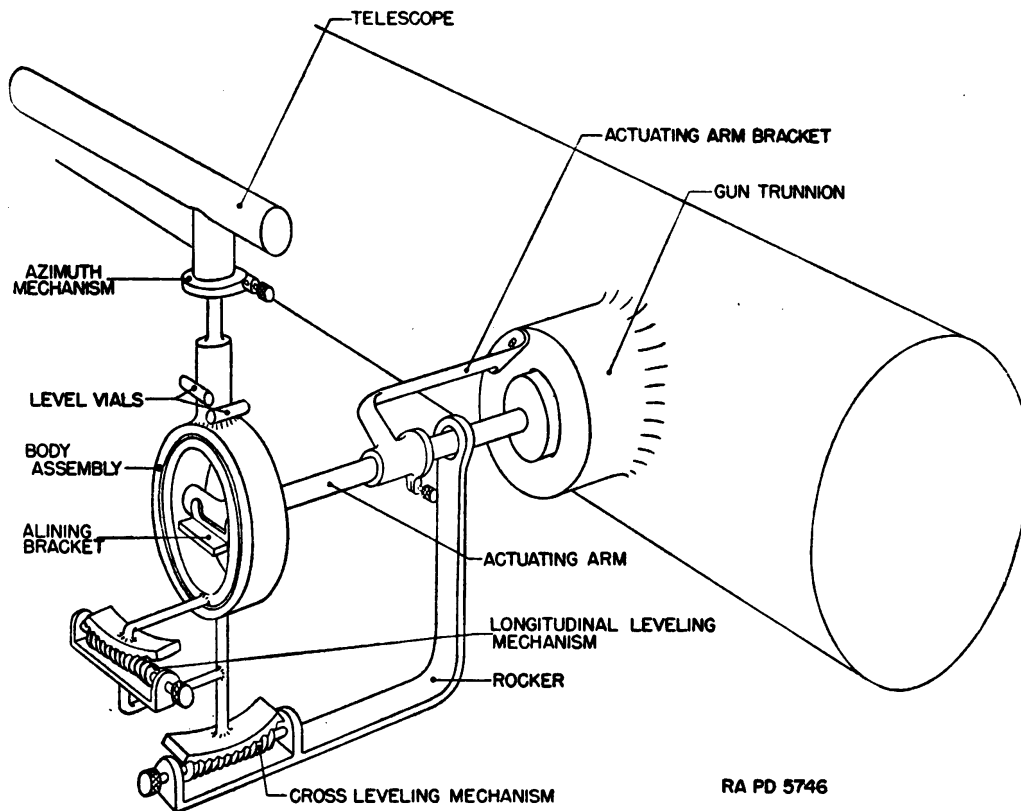

FIGURE 2.—Telescope mount M25—schematic diagram.
2. **Characteristics.**—*a.* The telescope mount M25 (fig. 1) is of the azimuth compensating type. It corrects the error in azimuth resulting from elevation of the gun with trunnions out of level. The various motions of this telescope mount with respect to the gun carriage and functional parts of the telescope mount are shown in figures 2, 6, 7,
a. The cross-leveling mechanism is contained in the cross level worm housing. When the cross-leveling knob is rotated, the mount tilts about the pivot in the mount-actuating arm assembly (fig. 2). The cross-leveled position is indicated on the cross level vial. Stops limit the tilt of the telescope mount.
b. The elevating mechanism (fig. 1) is housed in the telescope mount body and is actuated by the elevating worm. (This is often referred to as the longitudinal-leveling mechanism.) The worm meshes with the teeth on the gear assembly (fig. 2). When the elevating worm knob is rotated, the body assembly and rocker rotate about the actuating arm. The telescope socket is secured to the telescope body assembly and tilts either forward or backward as the elevating knob assembly is rotated. A longitudinal level indicates the horizontal datum plane. An elevation scale with index is on the left side of the instrument. The elevation scale is graduated in 100-mil divisions from 0 to 1,100 mils, the zero graduation indicating "normal." A micrometer is on the elevation worm shaft. Provision is made for adjusting the elevation scale and the elevation micrometer. An alining bracket (fig. 1) is screwed to the elevating gear to place the pivot on the end of the actuating arm parallel to the axis of the gun.